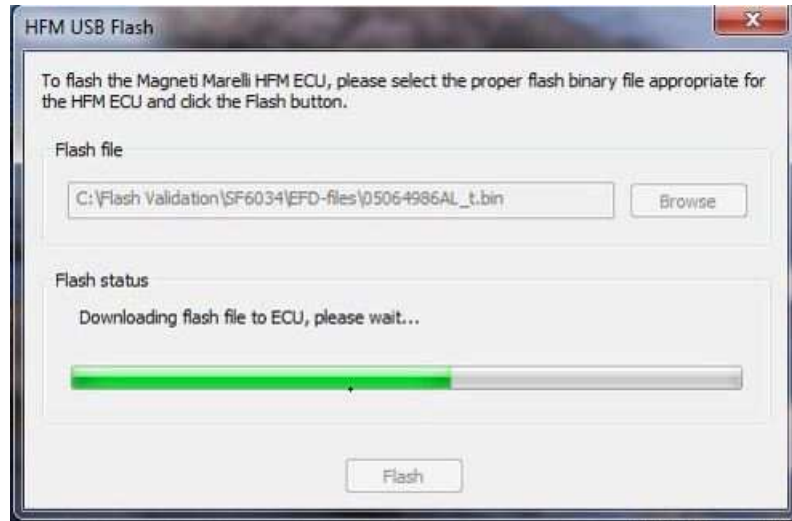

Fig. 15
- The flash download will begin after the USB-HFM connection is established (Fig. 15) .